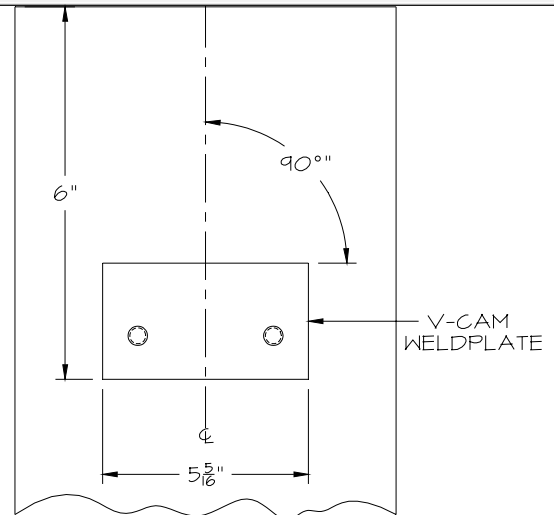

FIG. 15
- * **Measure and mark 6" down** from top of jamb (Figure 15).